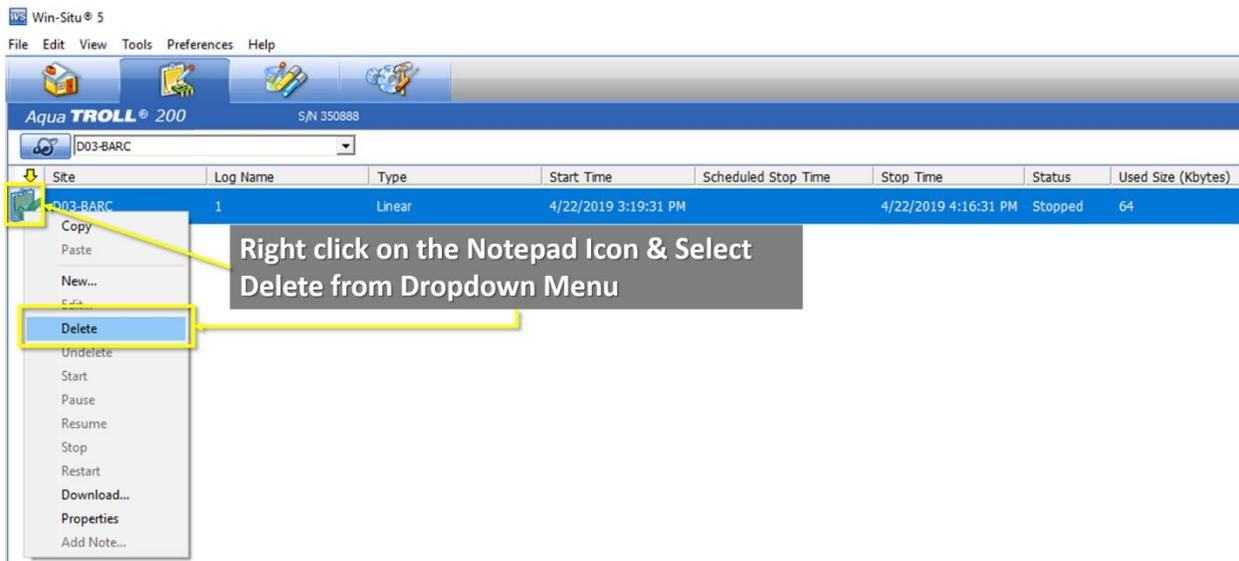

Figure 33. Right Click on the Notepad Icon of the Stopped Log File and Select “Delete”
1. Right click on the notepad icon of the stopped file and select “Delete” (Figure 33).